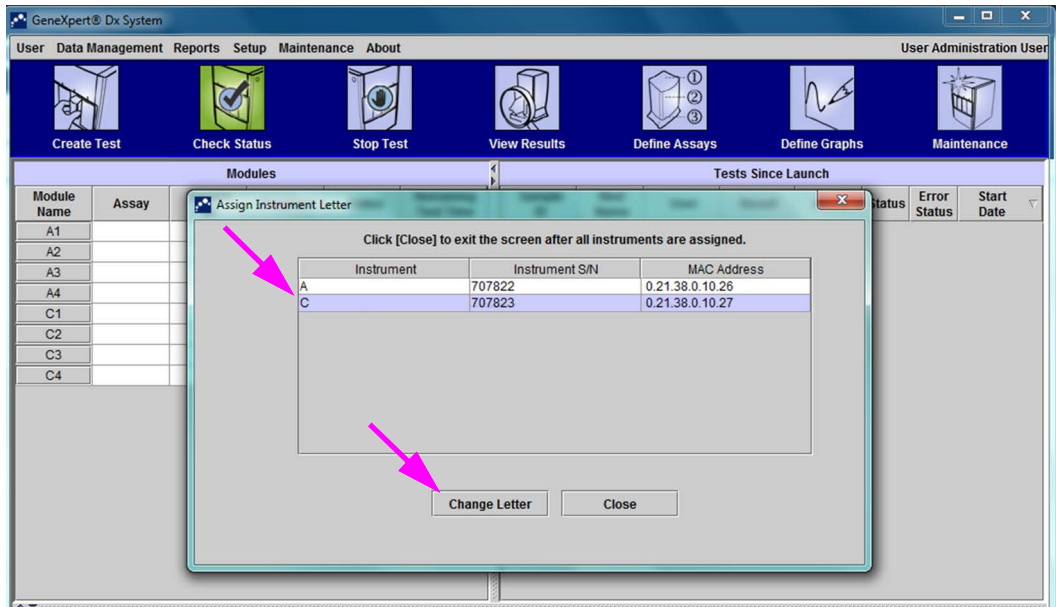

Figure 2-47. GeneXpert Dx System Window with Assign Instrument Letter Dialog Box Overlay
2. In the Database management dialog box, click **NO** to proceed. The GeneXpert Dx System screen appears (see Figure 2-47).